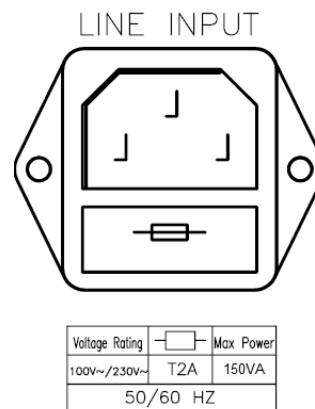

Fig 2-1 3270 Series AC Input Connection
2.2.2. Refer the drawing on the rear panel of 3270 Series high power load in Fig 2-1.